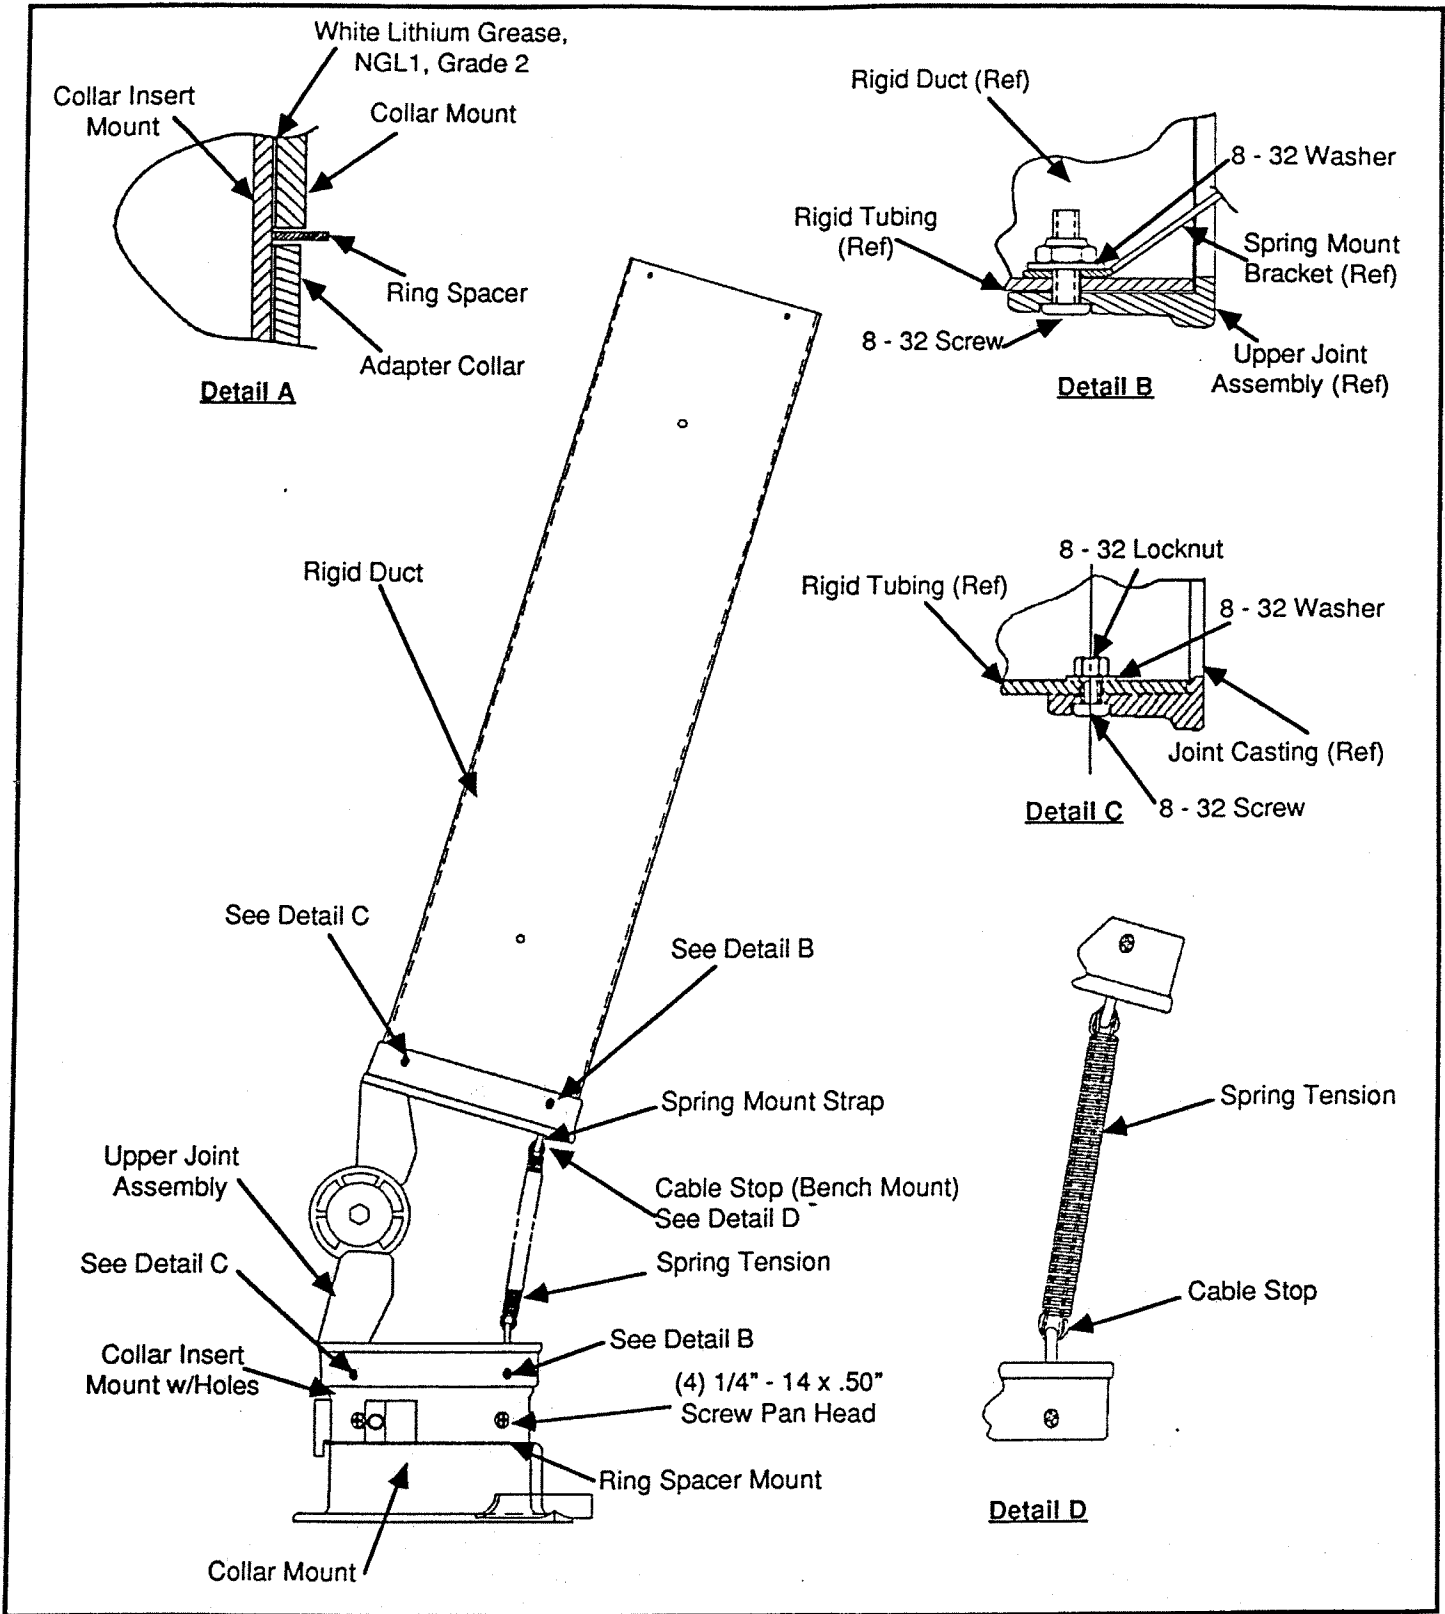

Figure 14
6.4.3 Swivel Friction Joint Replacement (Bench Mount) (See Figures 14 and 15)